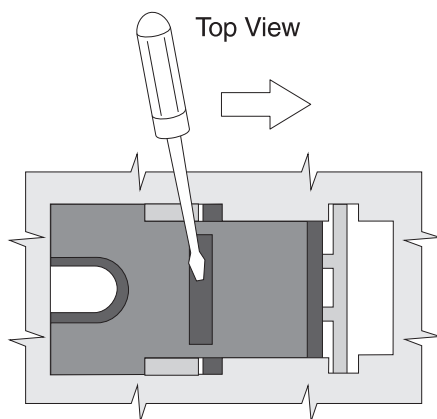
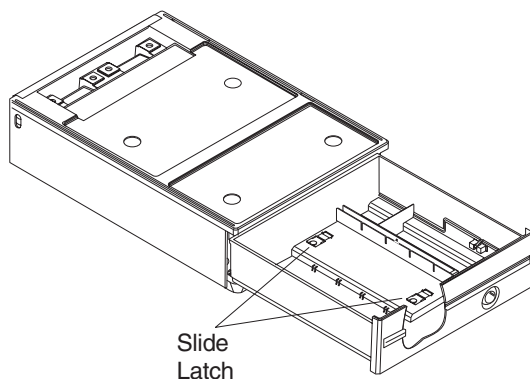

Figure 87. Releasing the drawer from the slide assembly
Figure 88. Removing and replacing the compact cash drawer
4. Facing the front of the drawer, use a coin or large screwdriver to move the drawer slide latches to the right until the drawer is released from the slide assembly (see Figure 87 and Figure 88). Lift the drawer out.